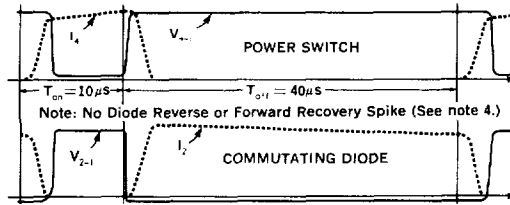

Figure 2. PIC625, 626, 627 Switching Waveforms
- No reverse recovery spike generated by commutating diode (See note 4, and Fig. 2.)
- In switching an inductive load, the current will lead the voltage on turn-on and lag the voltage on turn-off (see Figure 2). Therefore, Voltage Delay Time (t_{DV}) $\approx t_{di} + t_{ri}$ and Current Storage Time (t_{SI}) $\approx t_{sv} + t_{fv}$.
- As can be seen from the switching waveforms shown in Figure 2, no reverse of forward recovery spike is generated by the commutating diode during switching! This reduces self-generated noise, since no current spike is fed through the switching regulator. It also improves efficiency and reliability, since the power switch only carries current during turn on.